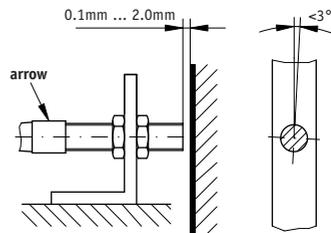

Fig. 8: Mounting of sensor Typ F
- **Sensor type F** has not been aligned according to the **arrow** (see fig. 8).